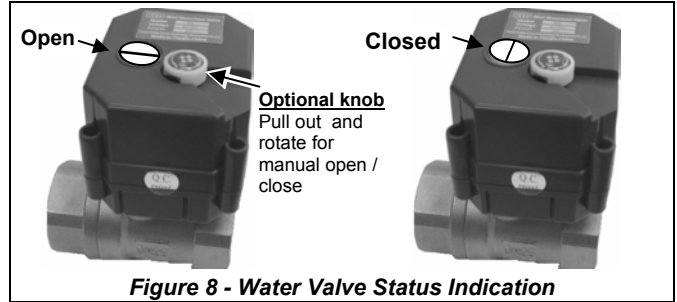

Figure 8 - Water Valve Status Indication
2. Verify that the water valve(s) will be closed within few seconds, during which the red CLOSED LED (see figure 1) will flash. At the end of the closing process, the red CLOSED LED will constantly light and the valve(s) status indicator (see figure 8) should indicate "closed".
2. Verify that the water valve(s) will be open within few seconds, during which the red CLOSED LED (see figure 1) will flash. At the end of the opening process, the red CLOSED LED will not light and the valve(s) status indicator (see figure 8) should indicate "open".
- At the end of the closing process, the red CLOSED LED will light steadily and the valve(s) status indicator (see Fig. 8) should indicate "closed".